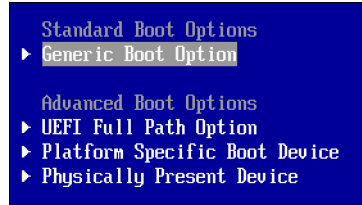

Figure 6-40 Boot options: Generic Boot Option selected
3. Select **Generic Boot Option**, as shown in Figure 6-40 on page 142.